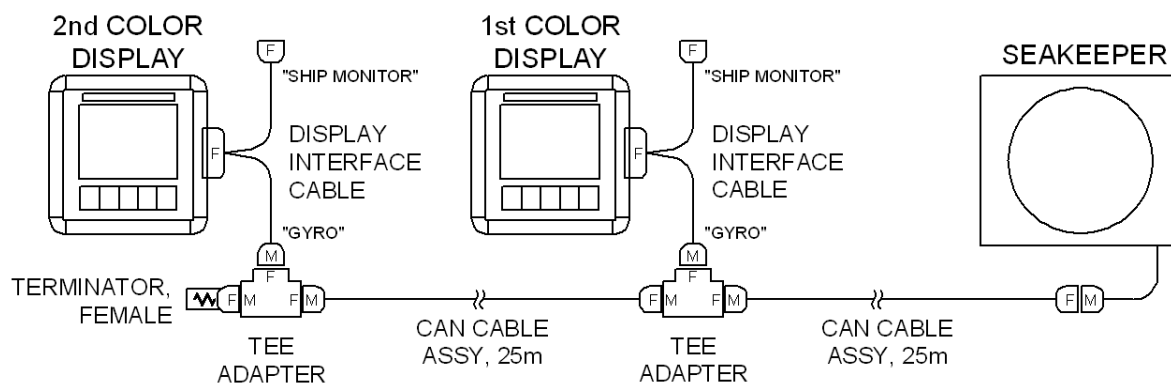

FIGURE 11 – CABLING FOR 2 OPERATOR STATIONS
- a. Figure 11 below shows the entire serial communications link for 2 Operator Stations. The Terminator must be installed on the Tee Adapter farthest from the Seakeeper.